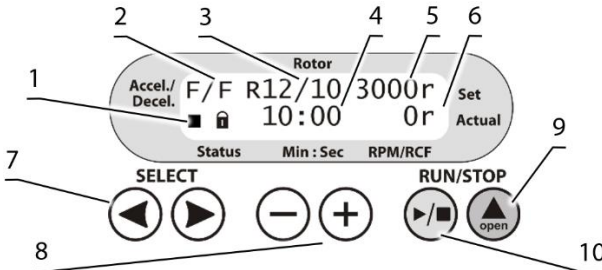

Figure 5. LMC-3000 control panel
- Check the power cord for any signs of damage. Connect the power cord to a properly grounded mains socket. Set the power switch on the unit to position **I** (on). Press the **▲ Open** key (fig. 5/9 or 6/11) and lift the lid by hand.
- Acceleration and deceleration modes (fig. 5/2 or 6/2);
- Rotor selection (fig. 5/1 or 6/1);
- Set rotor speed in RPM or RCF1 (fig. 5/6 or 6/6);
- Status icons of rotor, ■ stopped or ► running (fig. 5/1 or 6/1, first symbol);
- Status icons of lid, ▣ closed or ◻ open (fig. 5/1 or 6/1, second symbol);
- Set time of centrifugation, in minutes and seconds (fig. 5/4 or 6/4);
- Actual rotor speed, in RPM or RCF (fig. 5/6 or 6/6);
- 5.4 Press the ▲ **Open** key (fig. 5/9 or 6/11) and lift the lid by hand. Check the rotor and buckets for any signs of wear or corrosion and replace if necessary. Insert EVEN number of tubes/microtest plates in rotor one opposite another. The loading in the opposite tubes must be equal.
- 5.5 **Setting parameters.** Use the **SELECT** ◀ and ▶ keys (fig. 5/7 or 6/10) to choose a parameter and the – and + keys (fig. 5/8 or 6/9) to modify it. Selected parameter will be blinking. Program automatically saves any changes made after no keys are pressed for 2 seconds.
- 5.5.1 Acceleration modes (fig. 5/2 or 6/2, first letter). Three modes of acceleration are available, slow (shortened to **S**), normal (**N**) and fast (**F**).
- 5.5.2 Deceleration modes (fig. 5/2 or 6/2, second letter). Four modes of deceleration are available, free brake (**0**), slow (**S**), normal (**N**) and fast (**F**).
5.5.3 Installed rotor (fig. 5/3 or 6/3). Select the rotor that is currently installed in the centrifuge. Combinations of rotors, adapters and their maximum allowed speed is listed below:
5.5.4 Rotation parameters (fig. 5/5 or 6/5). Rotor speed can be set in RPM and in RCF, denoted after numeric value by **r** and **g**, accordingly. Values convert after changing units. RCF depends on selected rotor or adapters, as shown in **5.5.3**.
5.5.6 Time setting (fig. 5/4 or 6/4). Select duration of centrifugation in minutes, step 1 minute.
5.6 Close the lid carefully and smoothly until a clicking sound is heard. Icon  appears on the display (fig. 5/1 or 6/1).
5.7 Press the **RUN/STOP** /  key (fig. 5/10 or 6/12) to start centrifugation. Icon  (fig. 5/1 or 6/1) and actual speed (fig. 5/6 or 6/6) are shown in the lower line of the display. The timer (fig. 5/4 or 6/4) starts the countdown after set speed is achieved.